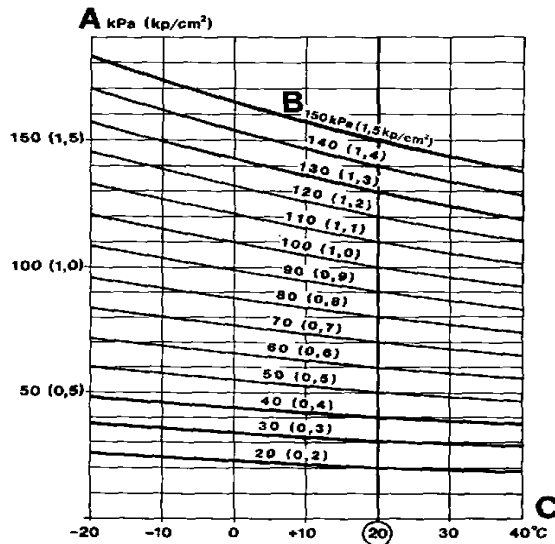

Fig. 206. Charging pressure at different temperatures
**NOTE!** In order to obtain true results, it is important to maintain **full loading for a sufficient length of time to enable the pressure to become stabilized.** Also note that the **pressure varies with the temperature of the intake air** (ambient air temperature) as shown in fig. 206.